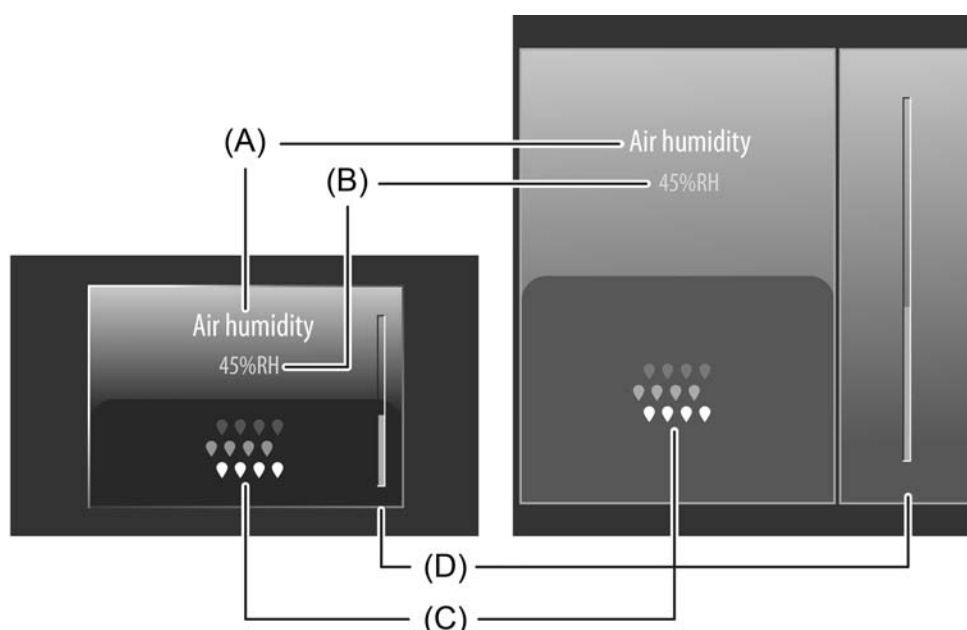

Figure 42: Example of an operating and display element of the channel function "2-byte value transmitter"
The display area contains different display elements (figure 42) that are influenced by ETS parameters. A name can be assigned to each KNX channel in the ETS (A). This text name is centred in the display element for display whereby controllable KNX functions are identified for the user (e.g. "Air humidity"). In addition, a status value (B) is displayed below the name, which displays values in plain text (e.g. "45%rF") depending on the object value of the value feedback of an actuator. The value displayed can be supplemented by a unit. The text for the value unit ("%rF" in the example) is configured in the ETS. After a device reset, the display shows "---" (supplemented by the unit) until a feedback object value of the status text is received. The display of the floating-point value received by the value feedback object can be formatted by ETS parameters. Hence, it is possible to set the number of places after the decimal point and optionally configure gain factors and value offsets (see "Objects" below). Similarly to the status value, a symbol (C) can be displayed in the lower display area. The symbol displayed is configured in the ETS (figure 43). The icons of the 2-byte value transmitter are static and do not change their appearance. The icon can be omitted optionally. The status value is always visible.